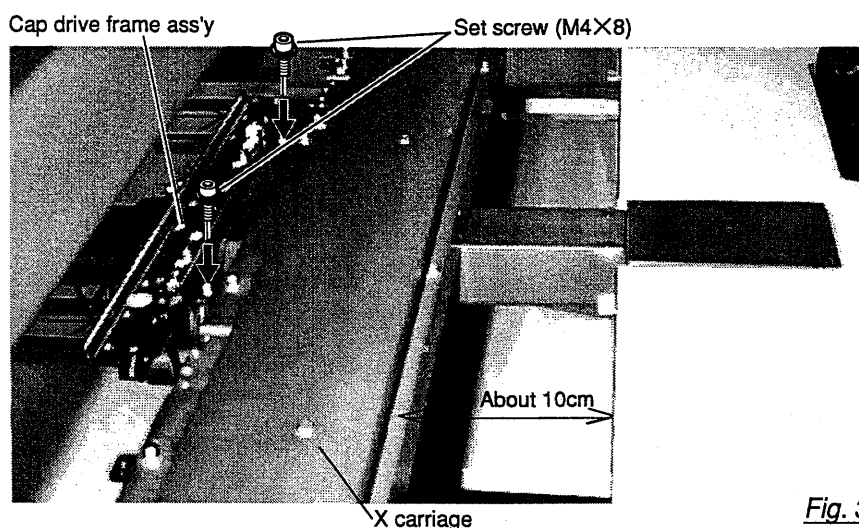

Fig. 3
5. Move X carriage to a position shown in Fig. 3.